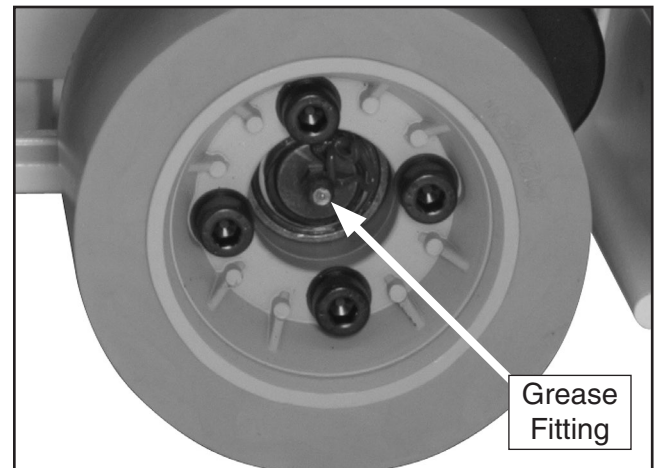

Figure 15. Wheel lubrication.
- Every 40 hours of use, or once every two weeks, wipe clean and lubricate the wheel grease fittings (**Figure 15**) with one pump from a grease gun filled with automotive grade GL-2 grease.